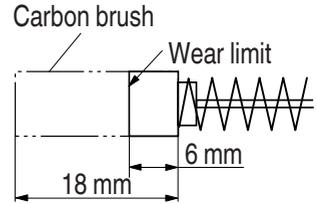

Fig. 14
2. Inspecting the carbon brushes (**Fig. 14**)